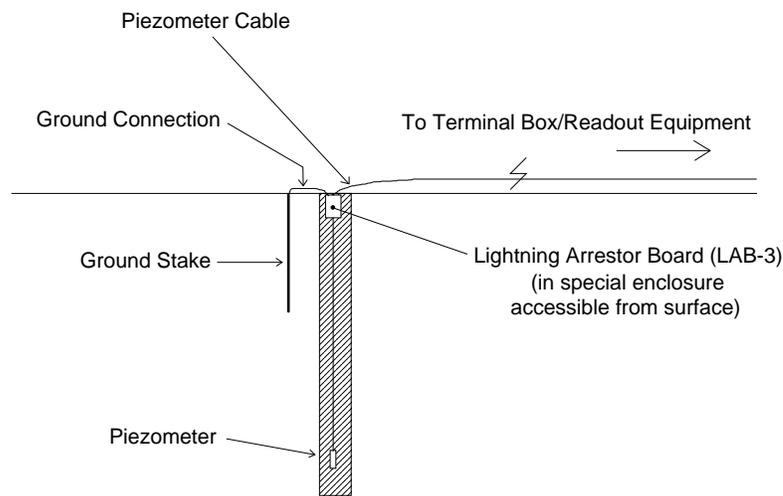

Figure 2-7 Recommended Lightning Protection Scheme
3. Improved protection using the LAB-3 can be had by placing the board in line with the cable as close as possible to the installed piezometer (see Figure 2-7). This is the recommended method of lightning protection.